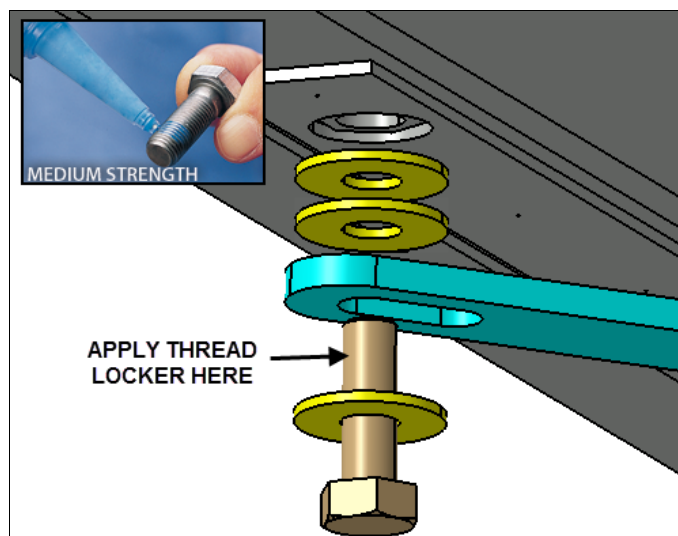

FIG.28 SUPPORT ARM HARDWARE STACKING ORDER
- 8) Reinstall the door support arm following hardware stacking order in Fig.28 below. Apply medium strength thread locker (blue Loctite 243 or equivalent) to the bolt threads and tighten just enough to feel a *slight* resistance between washers and arm when moving (no specific torque value applies here, arm movement must remain smooth).